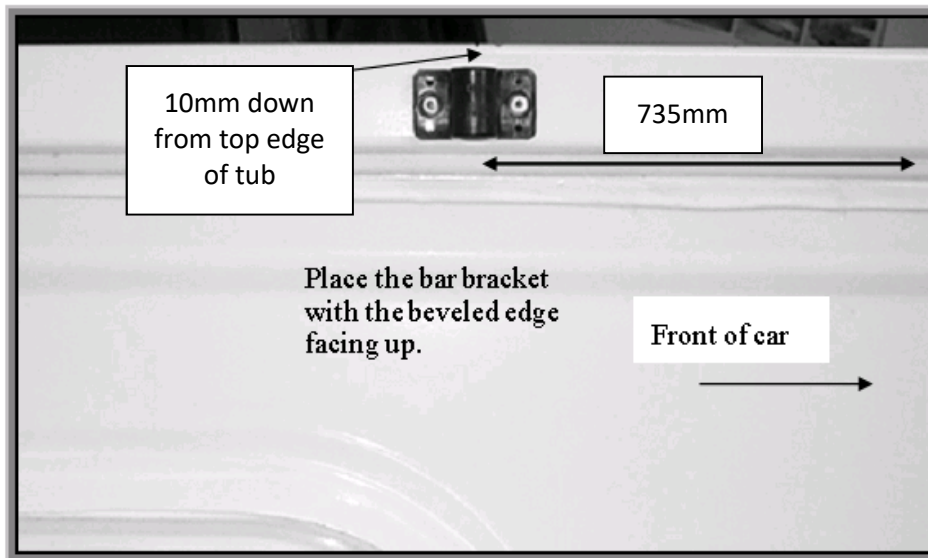

Figure 3. Placement of bar bracket.
1. To fit the support bar brackets, measure 735mm back from the inside front edge at the top of the tub and then place them as shown in **Figure 3**. (10mm from top edge of tub).
- Measure down 125mm from the top of the tub, and back 60mm from the front outside edge of the tub and then mark the position. See **Figure 3** below.